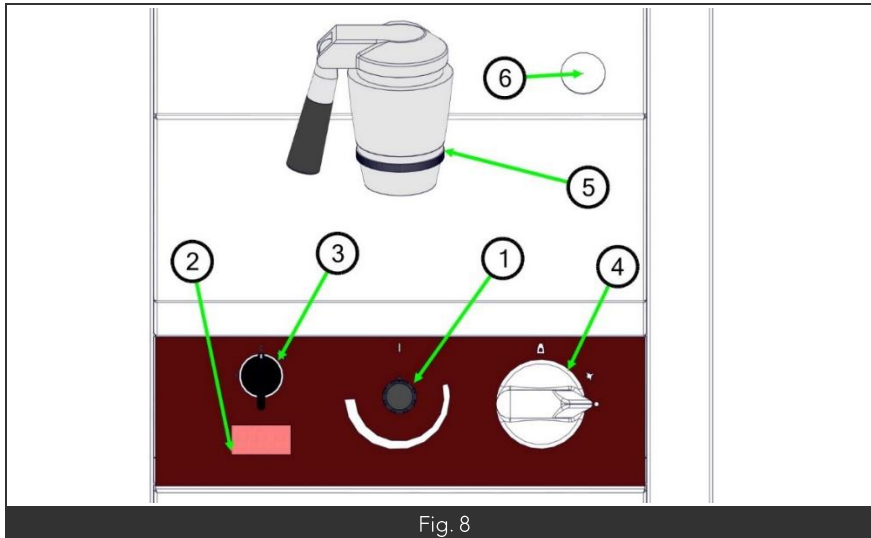

Fig. 8
- 1- Put the gas tap (Fig. 8 – Label 4) to the ignition position (✱) and keep it pushed. In the same time, put the 3-positions switch (Fig. 8 – Label 3) to the ignition position (✱). Keep the gas tap pushed for at least 10 seconds, the cross-lighting burner lights up.
- 3- Ignite the main burner by positioning the 3-positions switch to "1" position. The main burner lights up and the electronic temperature regulation switches on (You can see the temperature display (Fig. 8 – Label 2) switches on).
- 4- Select the desired temperature using the temperature adjustment knob (Fig. 8 – Label 1). As long as the temperature adjustment knob is manipulated, the display (Fig. 8 – Label 2) shows the setting temperature. After a few seconds without using the temperature adjustment knob, the display shows the current temperature of the oil bath.